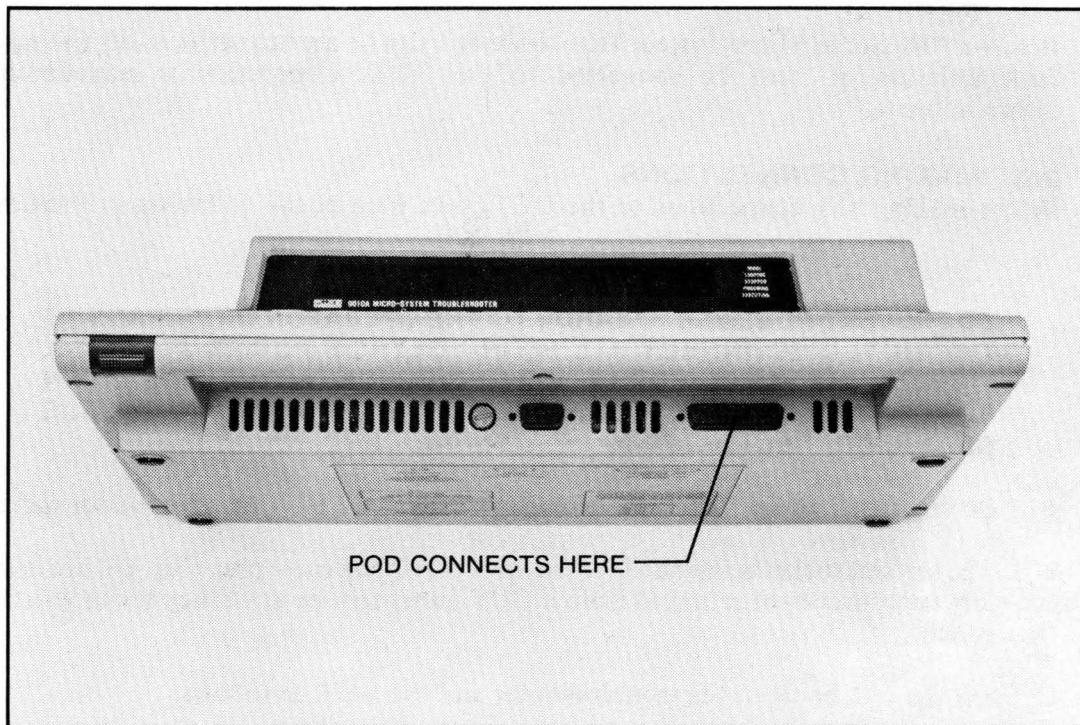

Figure 2-1. Connection of Interface Pod to Troubleshooter
2. Using the round shielded cable, connect the pod to the troubleshooter connector shown in Figure 2-1. Secure the connector using the sliding collar.